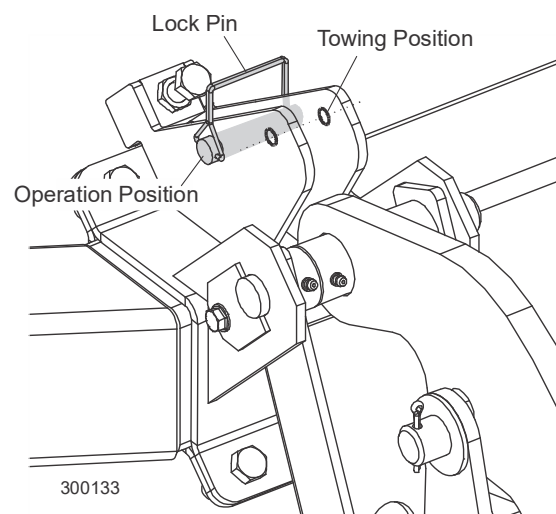

FIG. 4-13
3. If the sawmill is equipped with the optional hydraulic log turner, raise the turner arm as high as it will go. Lift the turner arm up and place the travel plate under the turner to secure the arm above the sawmill bed. **See Fig. 4-13.**